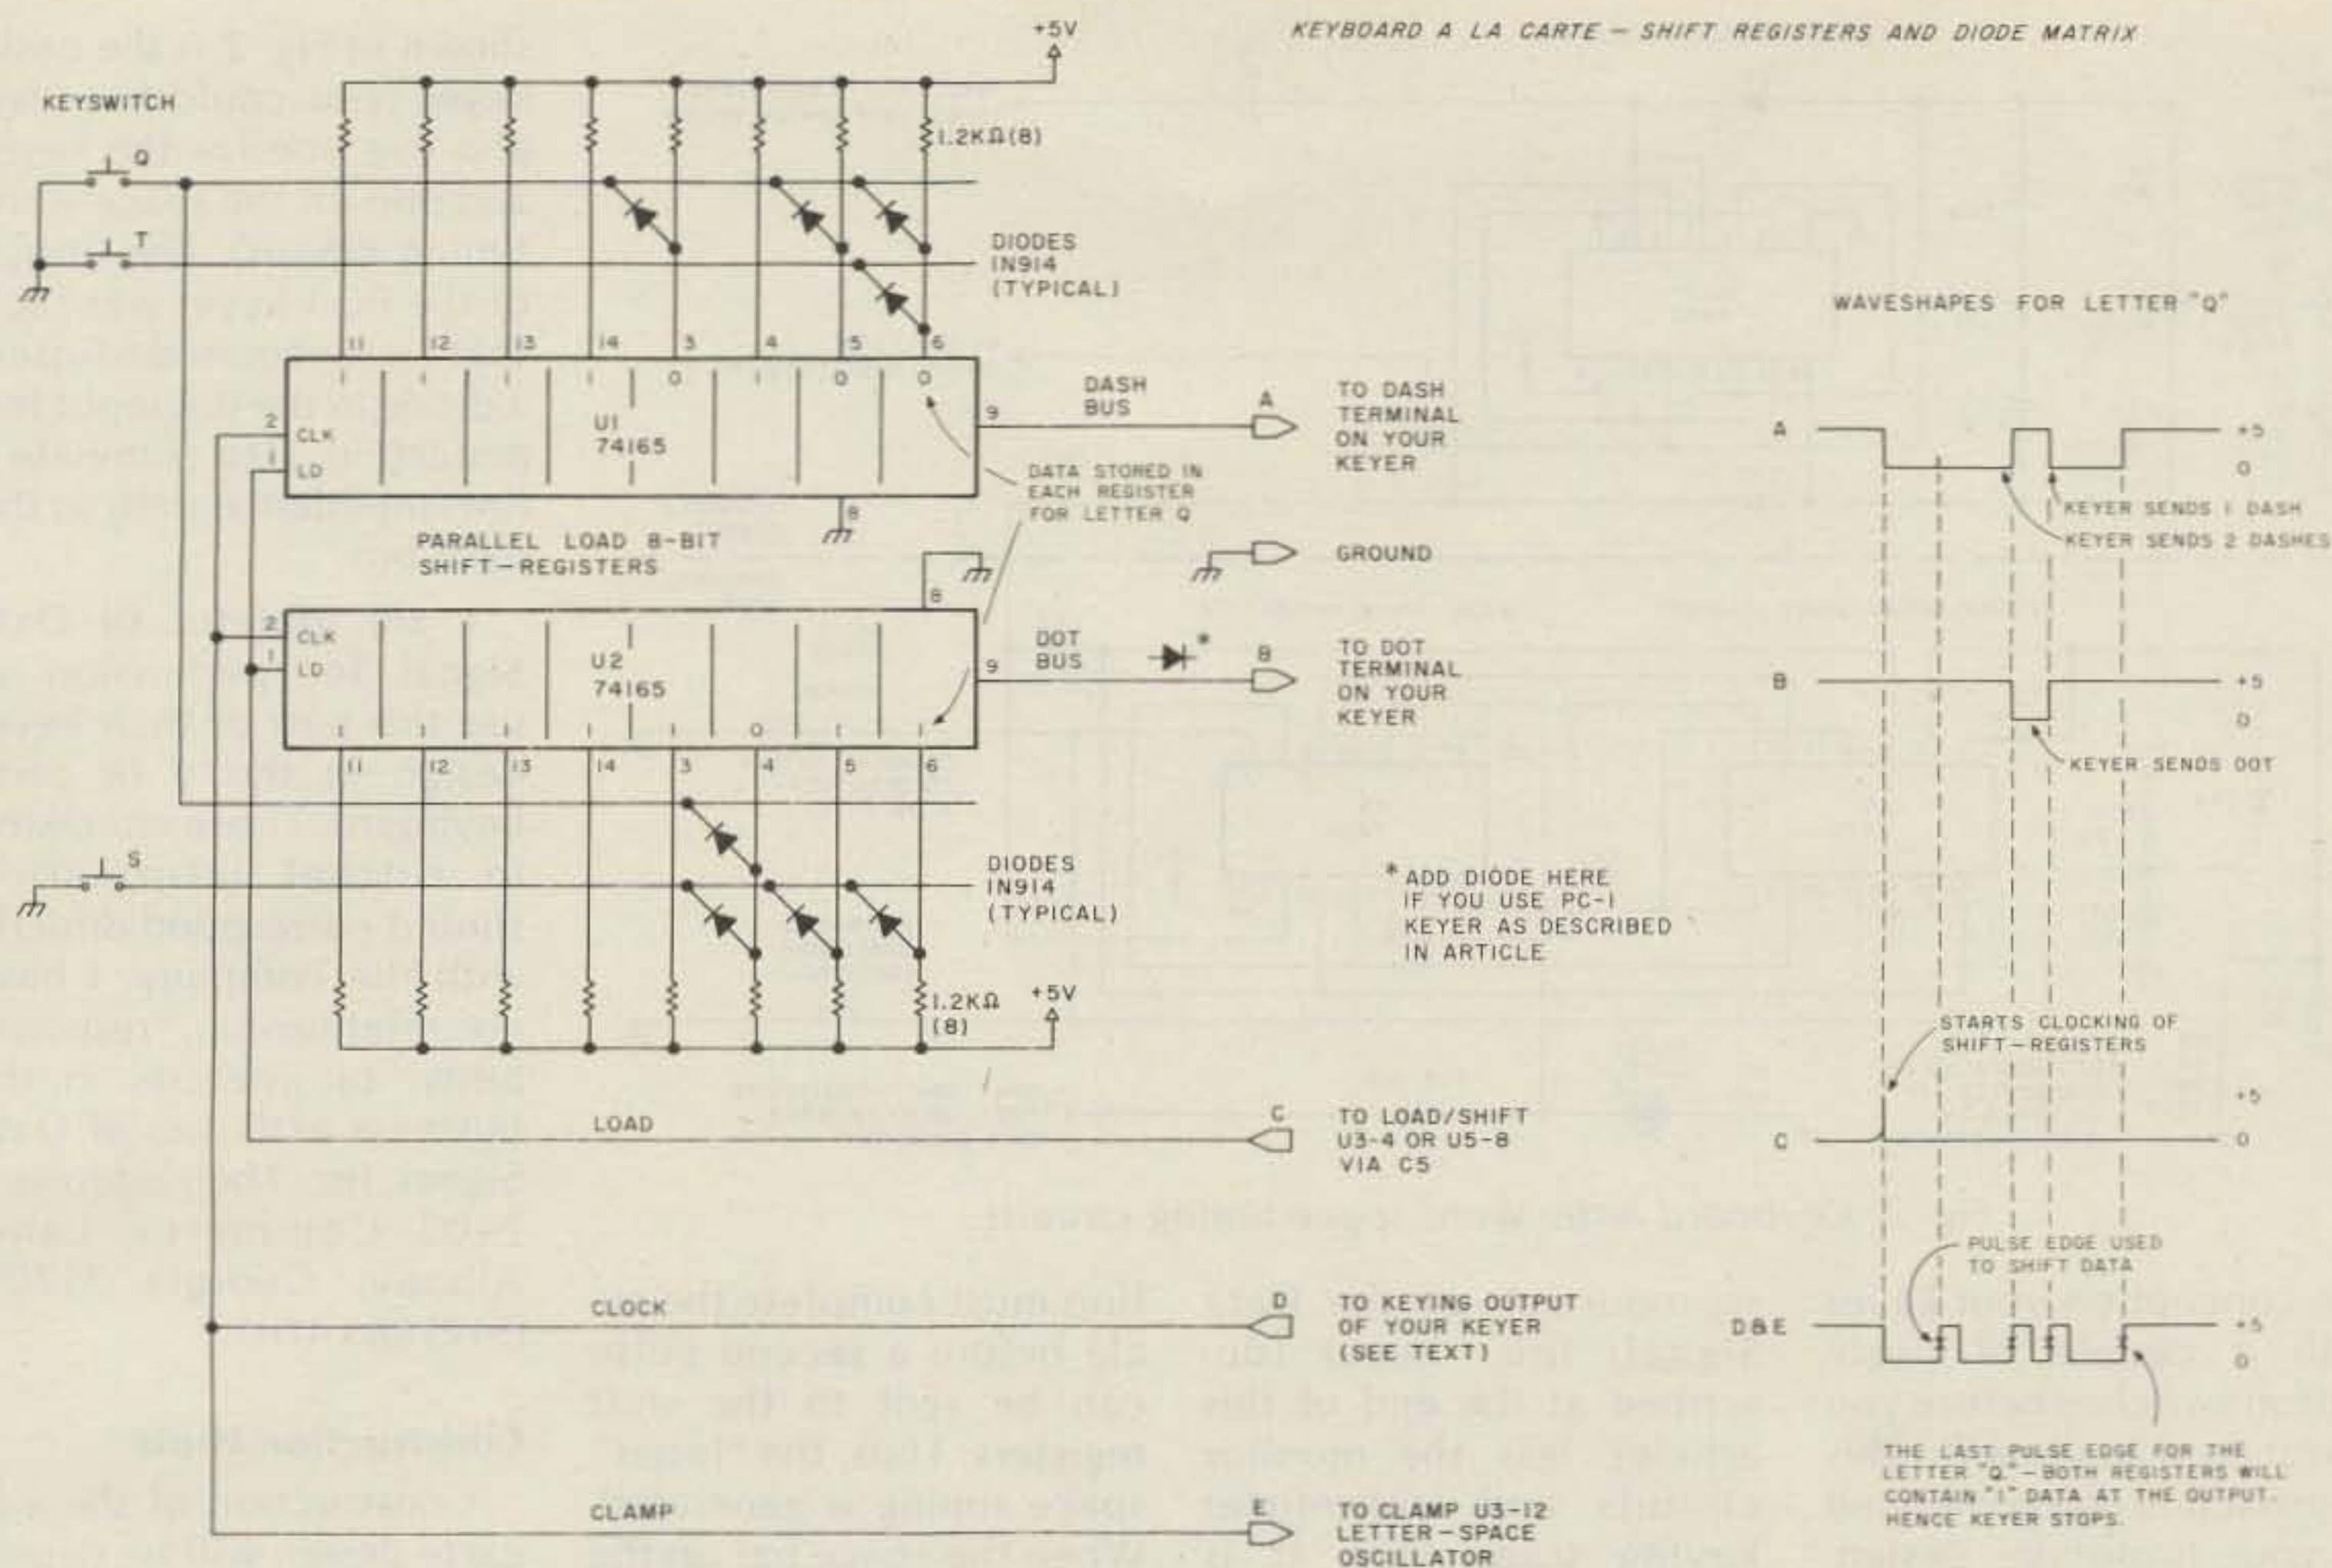
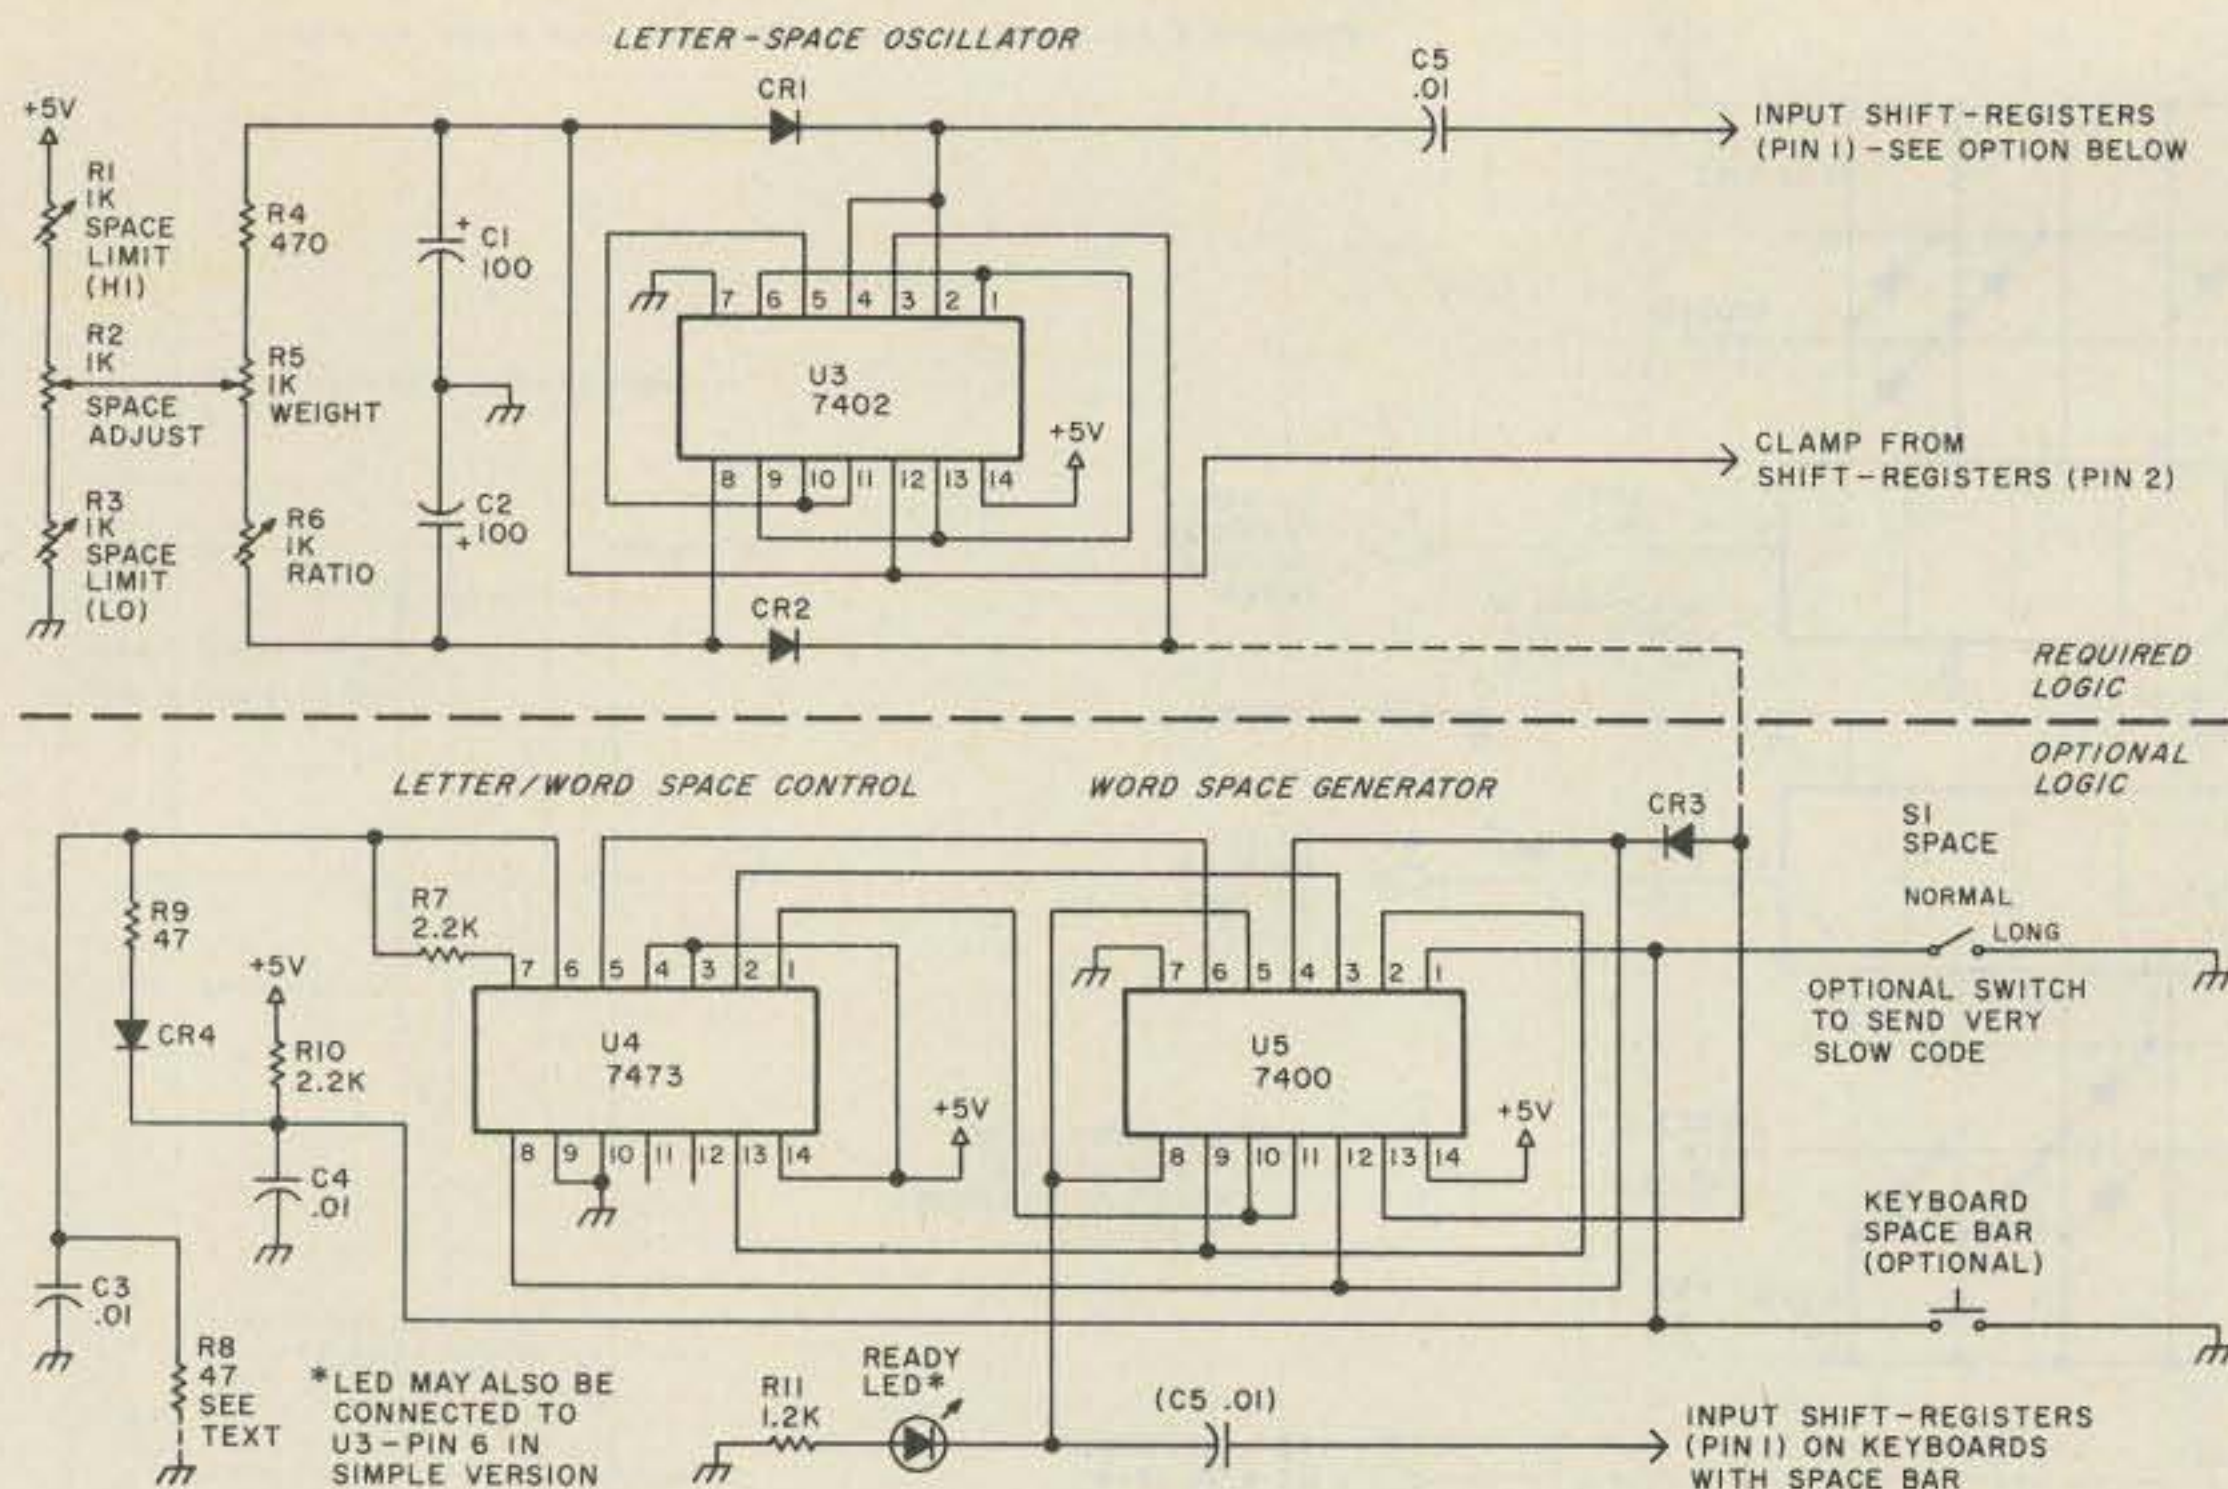

Fig. 1. Keyboard a la carte—shift registers and diode matrix.
Fig. 2. Keyboard letter/word space-timing circuits.
In this design, I used a diode matrix to establish the Morse coding elements (dots and dashes—forget about the spaces; your keyer takes care of that). In Fig. 1, the diodes forming the dot elements connect to a "dot" 8-bit shift register (U2), and the dash diodes connect to the "dash" shift register (U1). Examples of the diode arrangement to form the letters Q, S, and T are provided. The diodes may be wired all on one assembly to simplify wiring. The 8-bit shift registers store the "dot" and "dash" characterization for each letter in the order sent. There is no requirement to characterize the elemental spaces because this function re-
If the shift registers were not clocked, a second dash or dot would follow the first just as if you were holding down the key on your keyer. If both of the shift register outputs are high, the keyer again does its thing by doing nothing. When your keyer is idle, the a la carte keyboard assumes you have completed sending a letter, and it awaits the suggestion that you desire to send another letter. The letter-space oscillator (U3) controls this timing (Fig. 2). It sends a pulse (C) to the
shift register's load/shift input (pin 1) so that you can load in the next character from the diode matrix. If this pulse arrives at the shift registers when a key is being depressed, the next dot or dash instantly is on its way to the proper input of your keyer. Fig. 1 shows logically how the letter "Q" is loaded into the registers.
When your keyer is sending the letter, an output signal similar to the waveform shown in Fig. 1 (D and E) is routed to the shift registers (pin 2). This is a true representation of the Morse code as sent to your transmitter. It serves as a clock to advance the data stored in each of the eight locations in the shift registers. The 74165 clocks on the positive-going pulse at the end of each dot or dash element formed in your keyer. With the generation of the letter "Q", the data is shifted four times after
If the keyboard you have selected to use contains a space bar, you can add an optional circuit, shown in Fig. 2. It consists of a 7400 gate and a 7473 flip-flop. For most parts, it is a
shown in Fig. 2 is the basic keyer (you could buy two and use one for the keyer and one for the space-word timing circuit). The design of the PC-1 keyer was such that I was required to insert a diode in the dot input terminal (Fig. 1) to eliminate a low-impedance path to the dash bus.